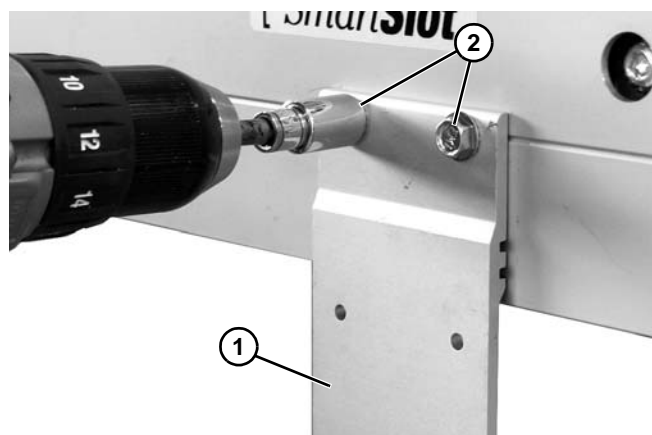

Figure 15
3. Measure an equal distance from end of head plate (on both sides of conveyor) and mark placement of mounting brackets (Figure 15, item 1). Fasten mounting brackets to conveyor with mounting screws (Figure 15, item 2) following proper methods of attachment instructions on page 11.